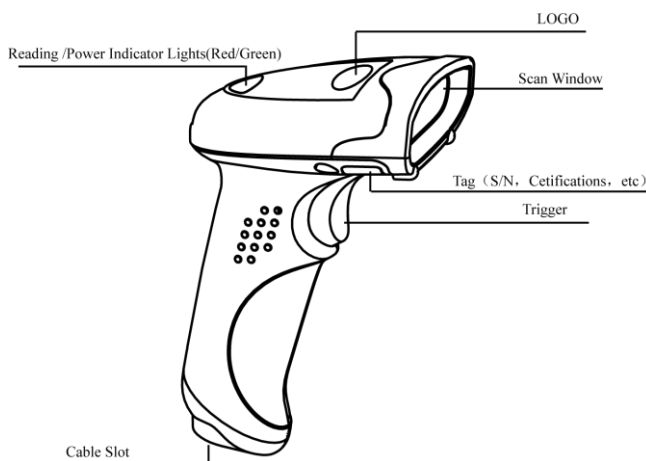

Fig. 1-1
1. Plug the RJ45 connector into the cable slot (see Fig.1-1) on the scanner.
1. Plug the RJ45 connector into the data slot (see Fig.1-1) on the scanner.